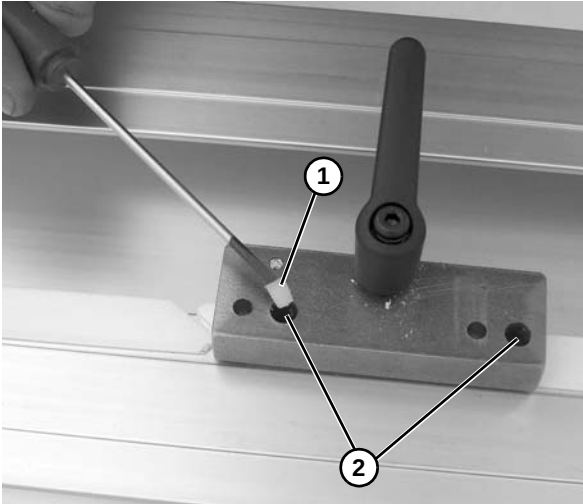

Figure 67
- Pressing down firmly, install nylon set screws (**Figure 67, item 1**) through larger guide holes (**Figure 67, item 2**) into conveyor frame.